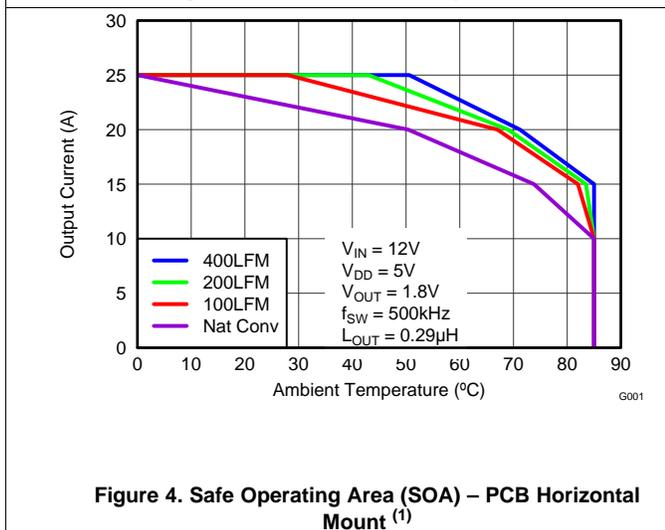
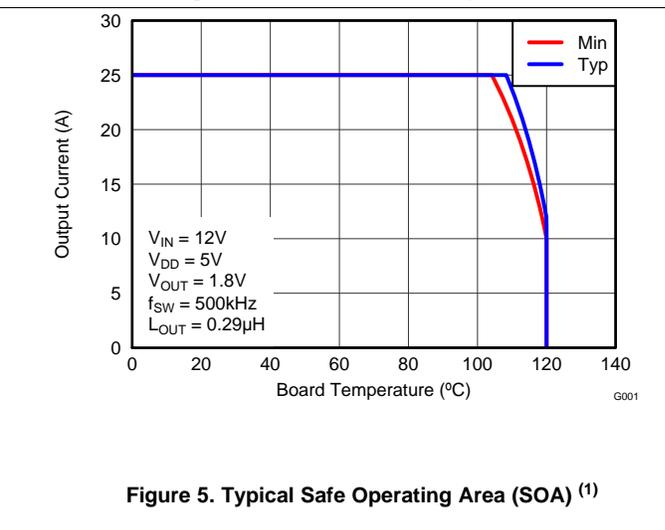

Figure 4. Safe Operating Area (SOA) – PCB Horizontal Mount (1)
Figure 5. Typical Safe Operating Area (SOA) (1)
The SOA curves in the CSD95375Q4M datasheet give engineers guidance on the temperature boundaries within an operating system by incorporating the thermal resistance and system power loss. Figure 4 and Figure 5 outline the temperature and airflow conditions required for a given load current. The area under the curve dictates the safe operating area. All the curves are based on measurements made on a PCB design with dimensions of 4" (W)  $\times$  3.5" (L)  $\times$  0.062" (T) and 6 copper layers of 1 oz. copper thickness.